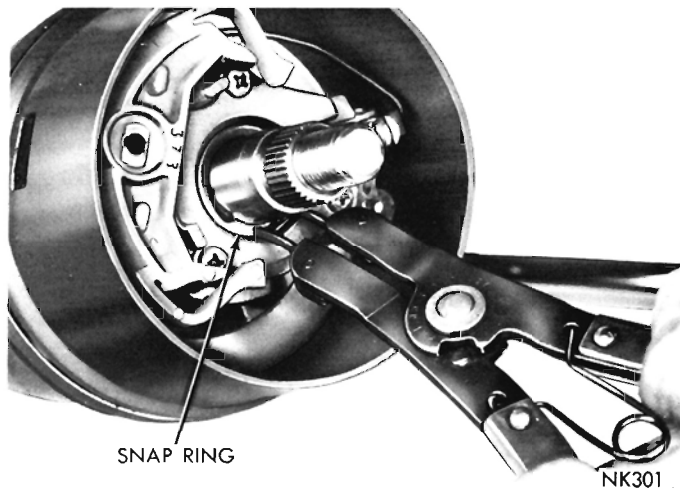
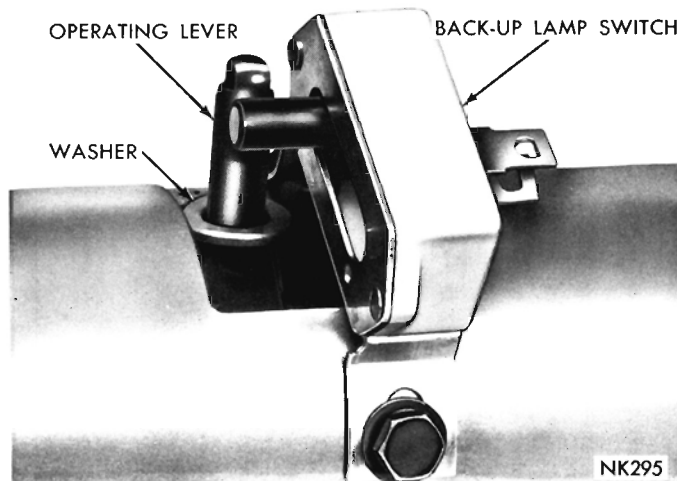

Fig. 5—Removing or Installing Steering Shaft Snap Ring
Fig. 6—Back-Up Lamp Switch and Operating Lever (AR-1, AR-2, AV-1, AV-2 Models)
(1) Remove the snap ring from upper end of the steering shaft (Fig. 5).
(2) Tap the steering shaft downward through the upper column bearing, then remove the shaft and lower bearing from the column.
(3) **AR-1, AR-2, AV-1, AV-2 Models:** Remove the back-up lamp switch (Fig. 6). Lift the washer off the switch operating lever, then unsnap the lever from the gearshift tube.
(15) Slide the steering shaft and lower bearing assembly in the column. Tap the shaft through the upper bearing, then install the snap ring (Fig. 5).
(16) **AR-1, AR-2, AV-1, AV-2 Models:** Place the gearshift lever in NEUTRAL position and snap the back-up lamp switch operating lever on the lug provided on the gearshift tube, slide the washer down over the lever to lock it in place (Fig. 6). Install and adjust the switch so the actuator arm is snug against the operating lever, then tighten the switch retaining screws.